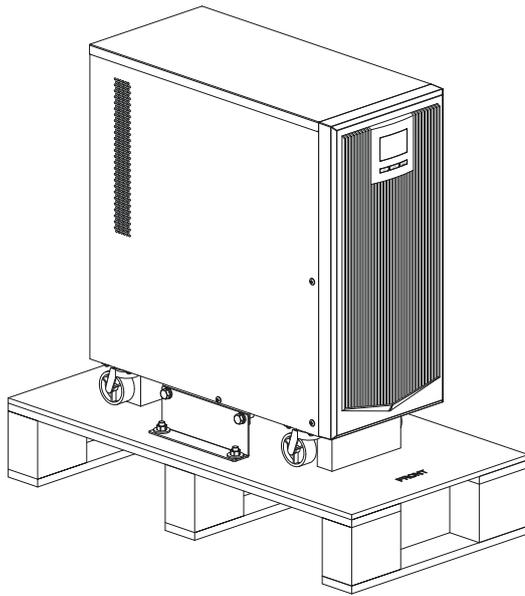

Figure3-1 Appearance after unpacking
- Step 4 Remove the package and take out the optional components and (1-10kVA) UPS IST3 User Manual. The appearance after unpacking is as shown in Figure3-1.